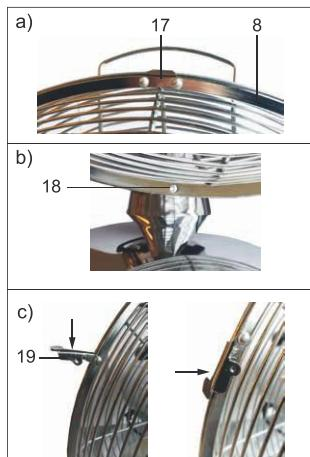

Fig.14: Mounting front protective grille
18. Slide the front guard grille (8) with the hanger (17) over the upper edge of the rear guard grille. Fig. 14 a).
19. Check whether the two hole recesses (18) are flush with each other at the bottom of the protective grille frames. Fig. 14 b).
20. Slide the 4 locking clamps (19), each located on the side of the front protective grill, over the frames of both protective grills. Fig 14 c).
21. Push the Phillips-head screw with lens head (8a) through the hole recesses (18) of the protective grille. Fig. 14 b).